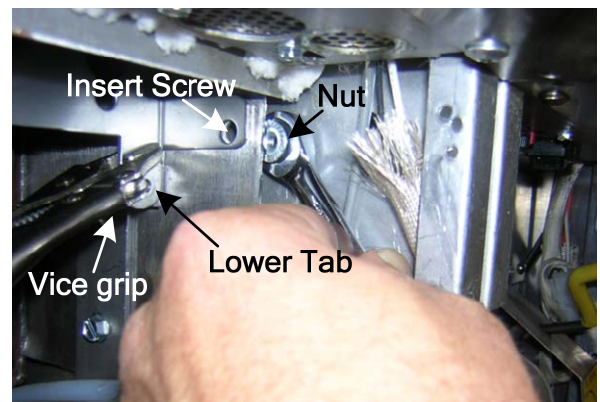

Figure 10: Rotate the brace into the frypot.
- F. Match the frypot hole and the corresponding hole on the brace (shown in Figure 10). Using a vice grip to secure the brace, slide a box end wrench (gear wrench) and nut between the frypot mounting flange and the wall of the cabinet.